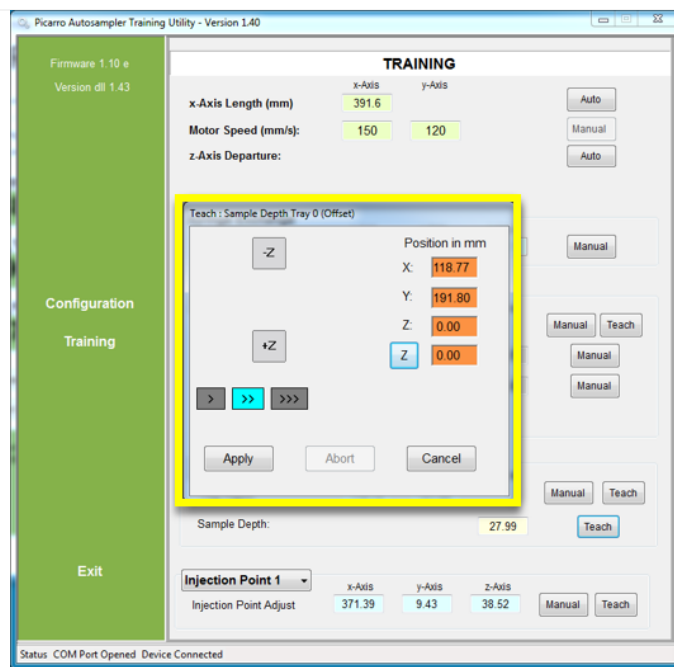

Figure 146. Train the Sample Depth using the Selections.
STEP 23 | The pop up window displays three speed modes to train Z in **Figure 146**:
Select “>” in **Figure 146** then click “+Z” to slowly lower the needle in short movements until it reaches depth (about $\frac{3}{4}$ down, 27 - 30 position in mm field for Z). Use “-Z” to raise the needle if the sample depth is too low. Click “Apply” when complete.